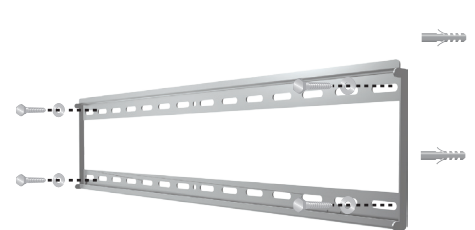

Figure 3 – Attach wall plate to wall (in masonry)
4. Attach wall plate by inserting lag bolts (Q) through washers (R) into each concrete anchor and tighten. Do not over tighten. See Figure 3.